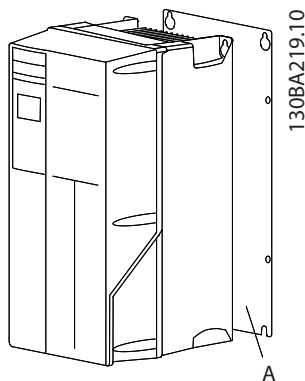
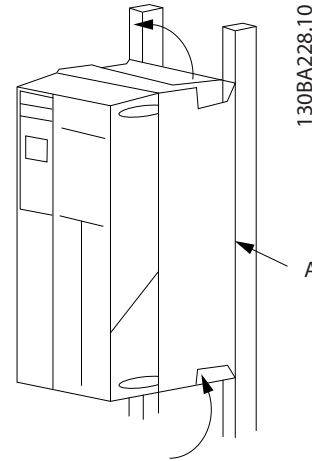

Figure 2.2 Proper Mounting with Backplate
Figure 2.3 Proper Mounting with Railings
- Mount the unit to a solid flat surface or to the optional backplate to provide cooling airflow (see Figure 2.2 and Figure 2.3).